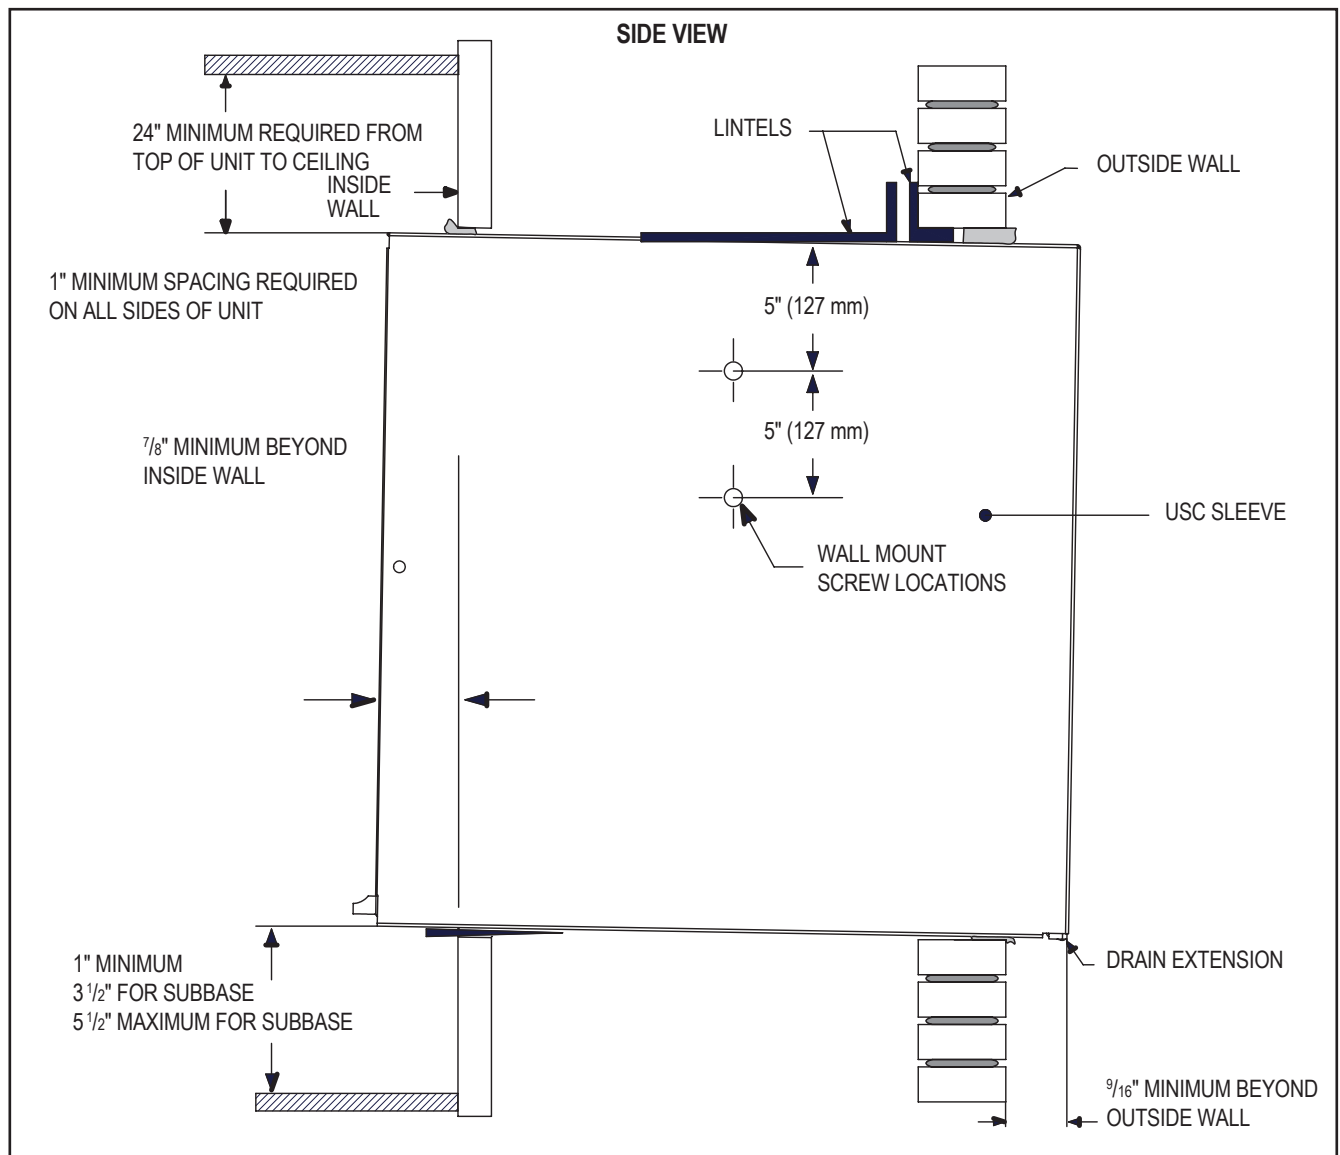

Figure C.4.1
**STEP 1.** The USC sleeve should be positioned so that the drain extension extends a minimum of 9/16 beyond the outside wall (see Figure C.4.1).